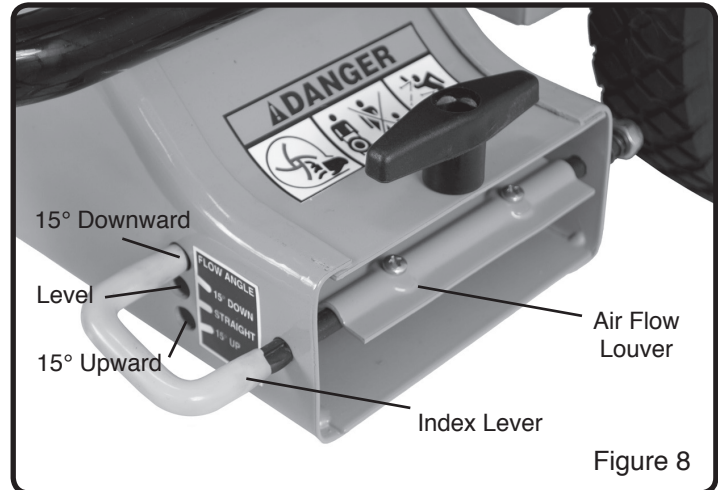

Figure 8
The vertical air flow direction can be adjusted between 3 positions: Straight (level), 15 degrees upward, and 15 degrees downward. Refer to Figure 8 when performing the adjustment steps below:
2. Rotate the index lever to the level position (See Figure 8).